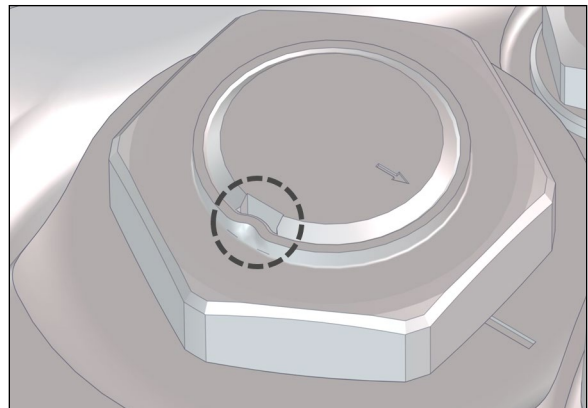

FIGURE 11
16. Using a cold chisel, undo punch mark that locks the steering gear sector shaft nut (Figure 11).